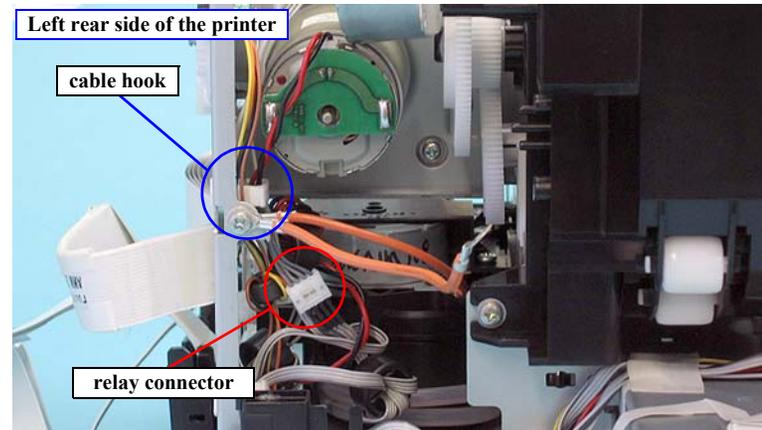

Figure 4-41. Releasing the cables of the MOTOR ASSY., ASF
2. Release the cables of the MOTOR ASSY., ASF from the cable hook. *See Figure 4-41.*
3. Disconnect the connector of the MOTOR ASSY., ASF, shown in *Figure 4-41* from the relay connector.